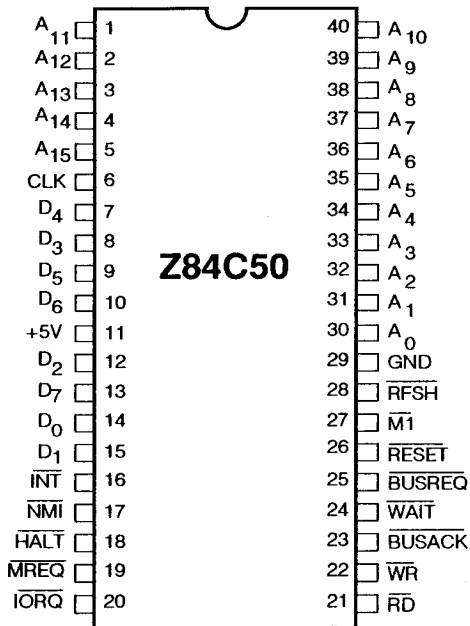

Figure 1. Pin Connections (top view) - DIP Package
**Pin Connections.** The pin connections of the Z84C50 are as show in Figures 1 to 3.